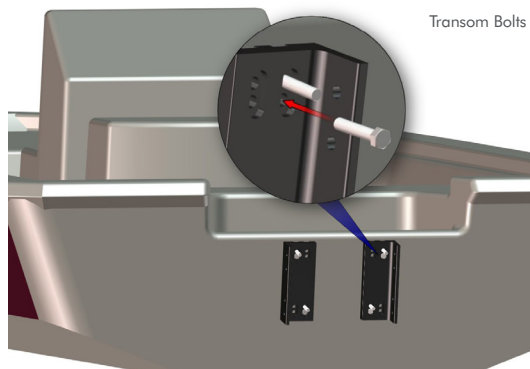

Figure 5
STEP 5: Install the M to S adapter plates (**B**) onto the boat transom/ jack plate and tighten to your boat manufacturer's torque specifications. (**Fig. 5 or 6**)